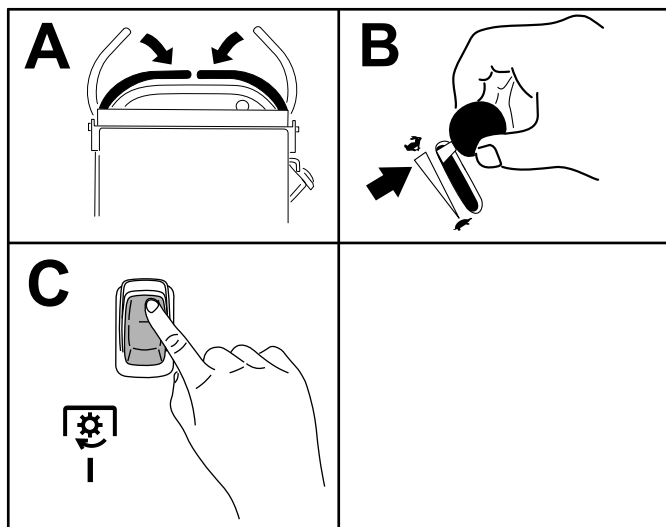

Figure 12
**Note:** If you disengage the mower blades by releasing the motion-control levers, you can engage the blades again by pressing the ON position of the switch (Figure 12) without pressing the OFF position first.